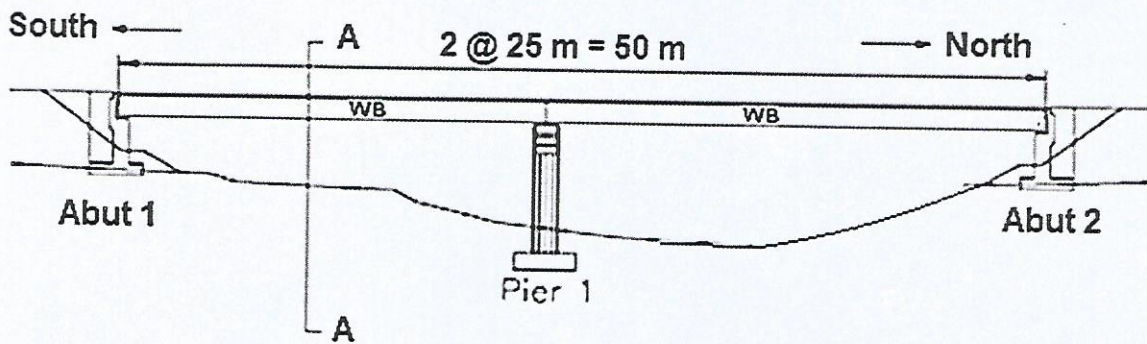

Figure 1: Elevation of Steel Girder Bridge
1. A steel girder bridge (**Refer Figures 1 and 2**) on a National Road in PNG has the following data;